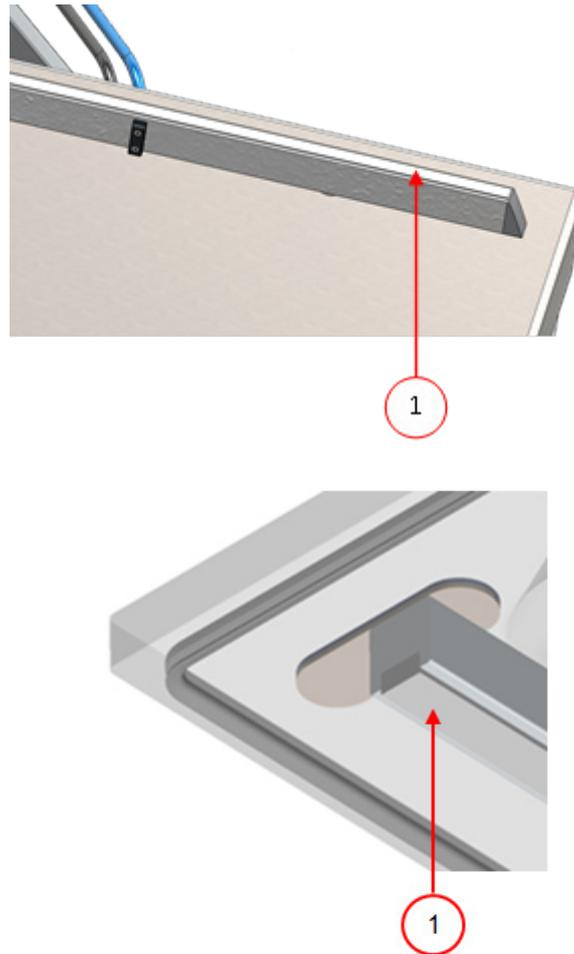

Figure 28: Replacing the Silicone Rubber of the Silicone Holders
1. Pull the old silicone rubber from the holder, see *Figure 28: Replacing the Silicone Rubber of the Silicone Holders* on page 71.